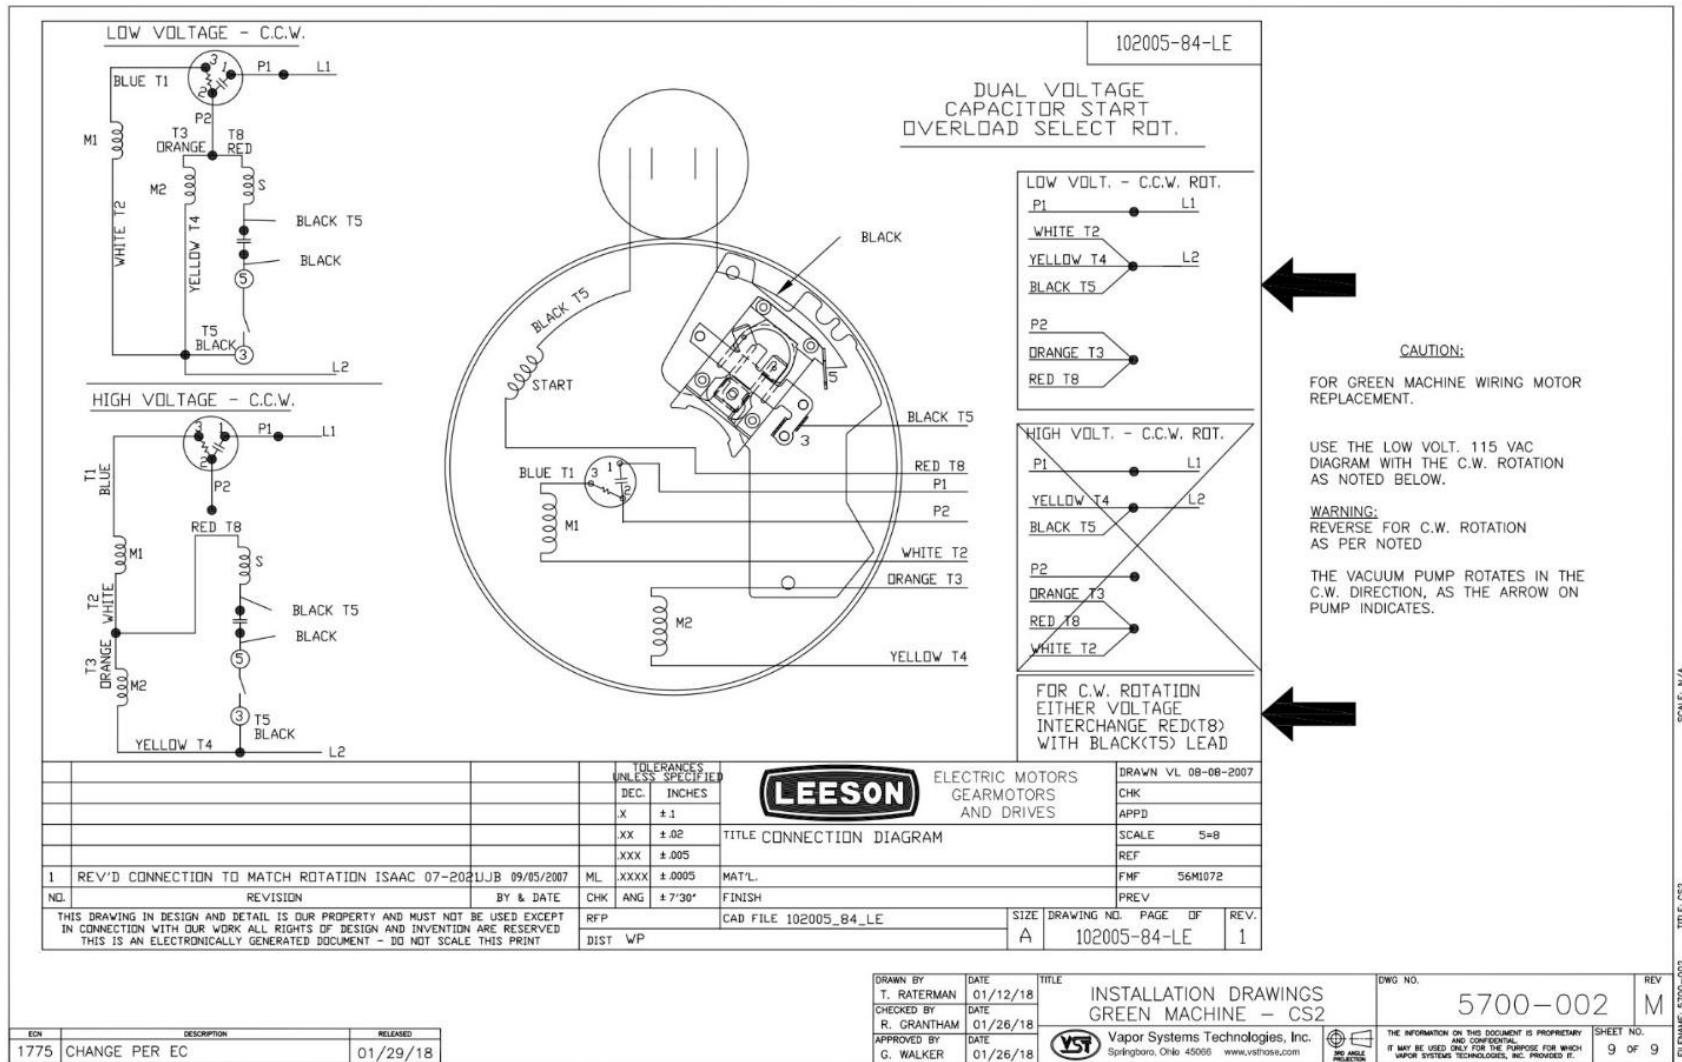

Figure 9-15: Junction Box Motor Wiring Diagram
5. Disconnect the motor wires inside the motor junction box. See Figure 9-15.
See Figure 9-15.